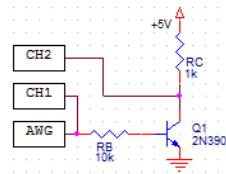

Figure 66: Amplifier circuit
- 1) Build the circuit shown on figure 66.